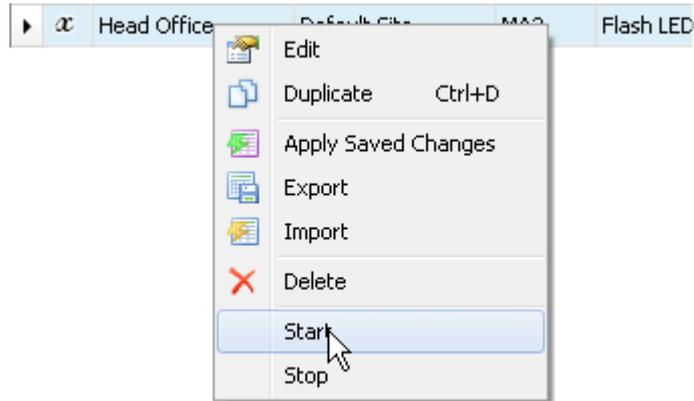

Figure 26
2. Right-click the macro in the automation the macro panel and select 'Start'. (*Figure 26*)